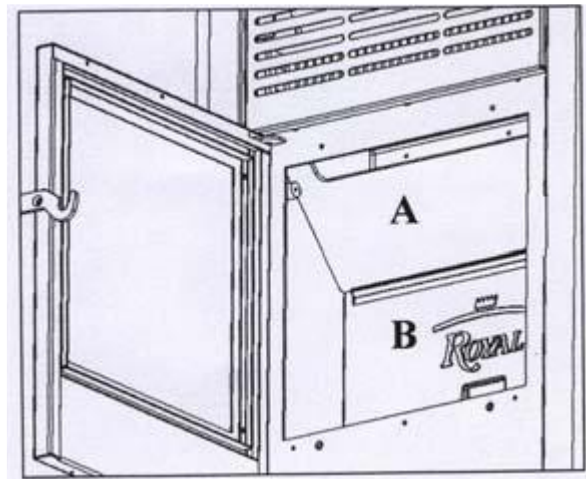
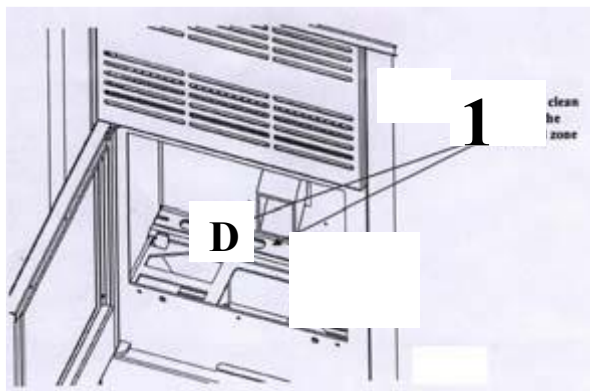

Figure 20
Figure 21
from the chamber pull out the upper plate made of steel or cast iron (figure 20) by lifting, straightening, lowering in the height of the chamber opening and by turning so that one of its ends along the height comes out first and then completely take out the upper plate from the chamber and put it aside, on the floor. Then maximally lift the cast plate in the chamber (figure 20B) and by using a vacuum cleaner, clean the back part of the chamber behind plate B. You can perform this cleaning also by taking out the upper metal sheet deflector for the purpose of cleaning the glass (figure 21D). This sheet metal is attached to screws as shown in figure 21 (D). Then pull out the upper plate of steel or cast iron (figure 20A) and turn it and pull out the lower, back plate of cast iron (figure 20B). Clean the parts, shown in figure 21. We do not recommend this other manner of cleaning since damaging of the threads of the special bolts of the deflector may quickly occur.